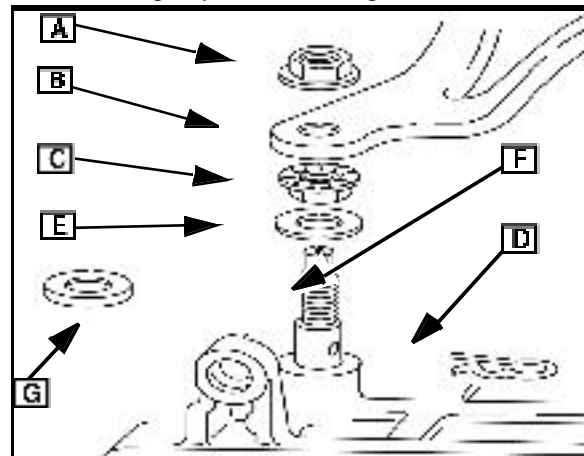

Fig. 15
5. Remove nut ([A] Fig. 15) (left hand threads) and lift off governor lever (B).
6. Remove nut (C) (left hand threads), spring clip (D) and thrust washer (E) from governor crank (F).
7. Remove felt seal (G) if equipped.
8. Push governor crank ([F] Fig. 15) down through cylinder housing.